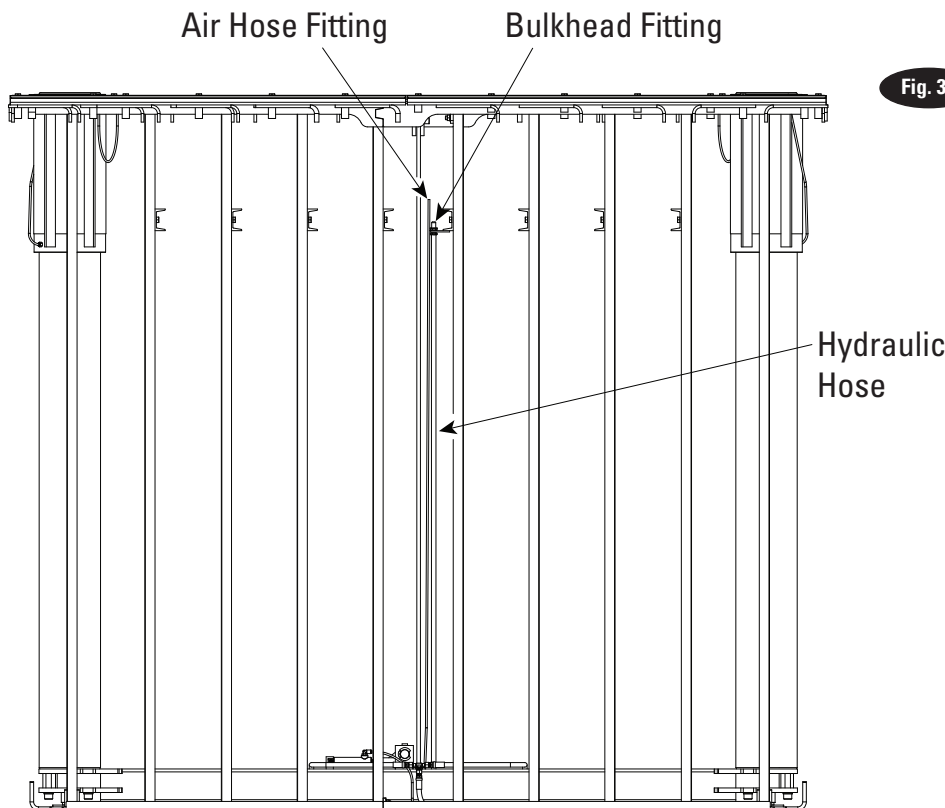

Fig. 35
**A.** Have someone raise the lift while another watches the tracking of the hose between the frame bulkhead and equalizer beam, Fig. 35. If the hose does not track between the members of the equalizer beam without rubbing, adjustment is necessary.